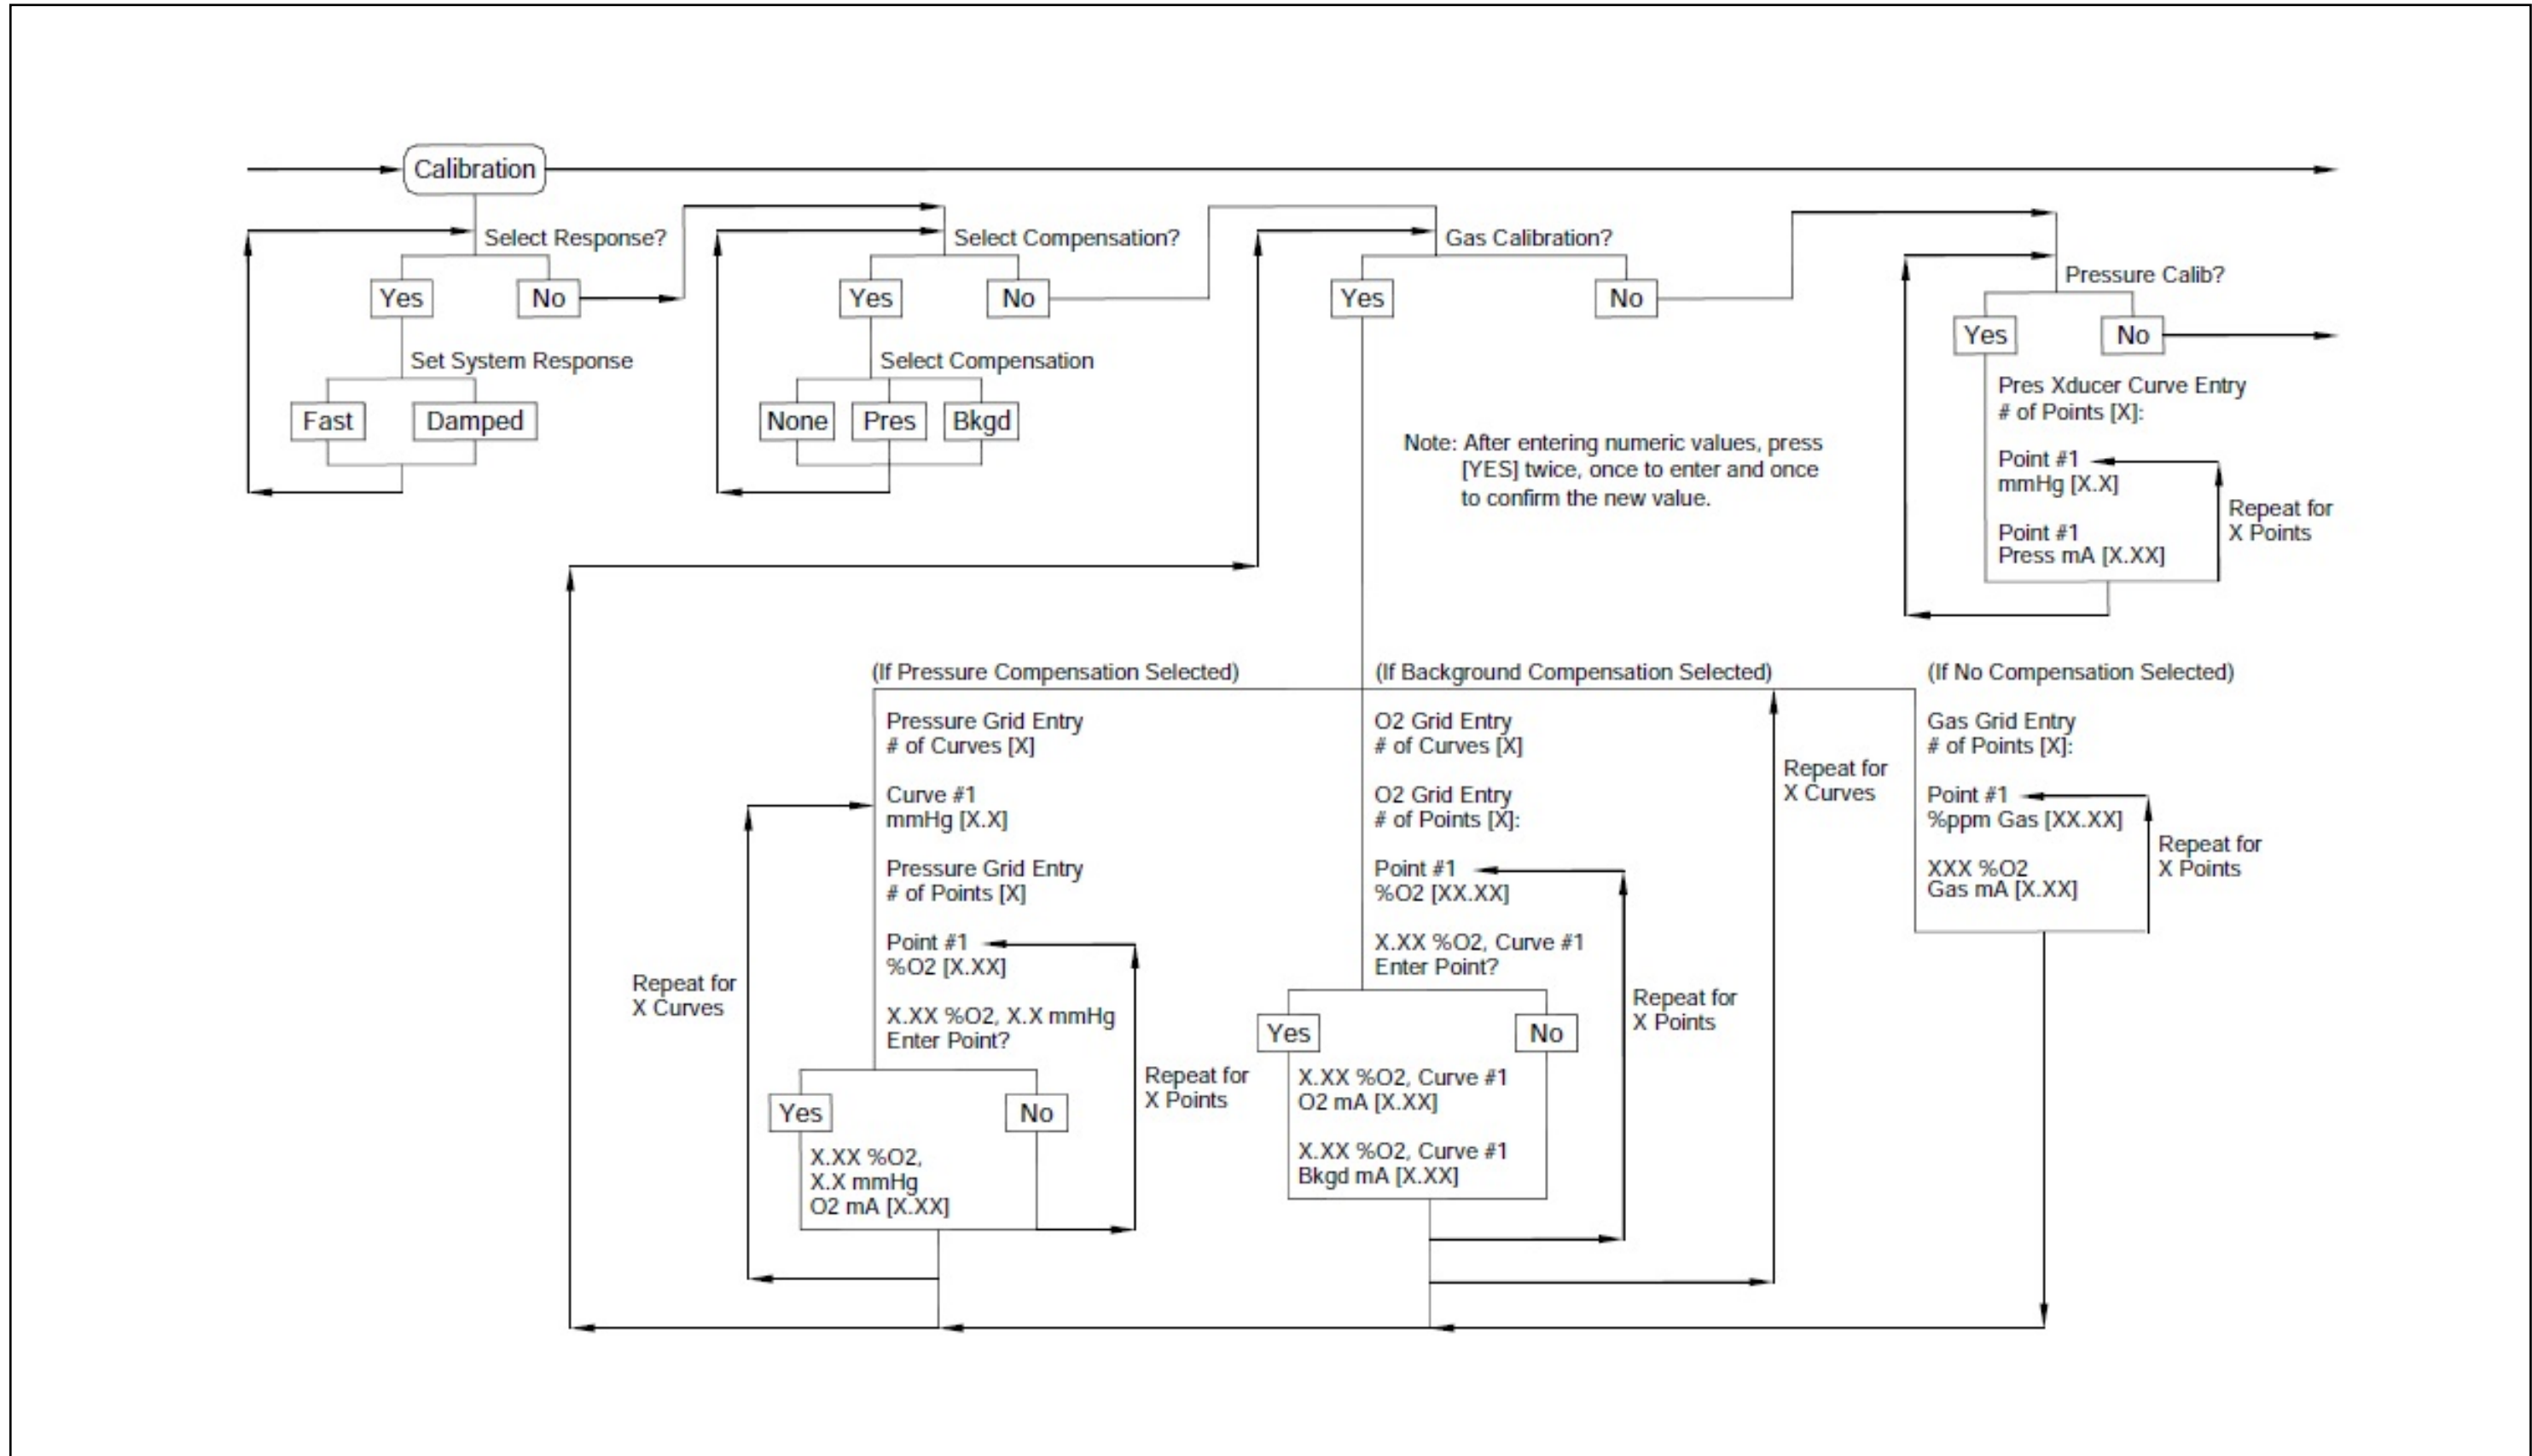

Figure 28: Main Menu: Calibration Menu
- Figure 28: Main Menu: Calibration Menu